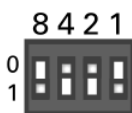

Figure 7: Values of the individual switches
5. In the switch block S1, set the ID with the four DIP switches. Each switch is a bit of a four-digit binary number (see Figure 7).